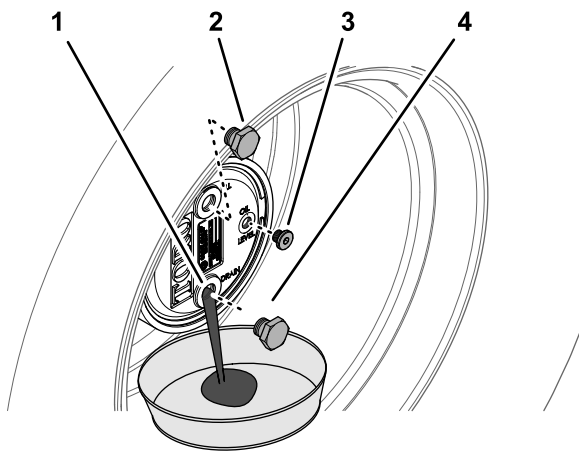

Figure 61
2. Remove the fill plug at the 12 o'clock position and the check plug at the 3 o'clock position (Figure 61).
3. Place a drain pan under the planetary hub, remove the drain plug at the 6 o'clock position, and allow the oil to fully drain (Figure 61).
5. Install the drain plug into the drain hole of the planetary housing (Figure 61).